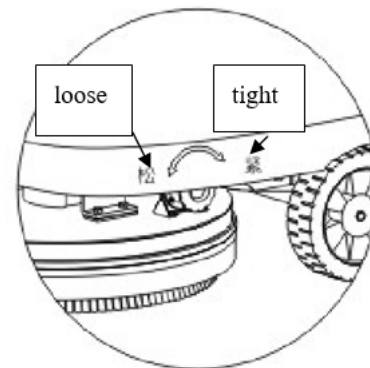

Figure 13
16. Ensure the clean water tank is clean. Cumulation may cause a blockage. Clean the filter weekly to ensure the water pipe expedite when in operation (see figure 13)